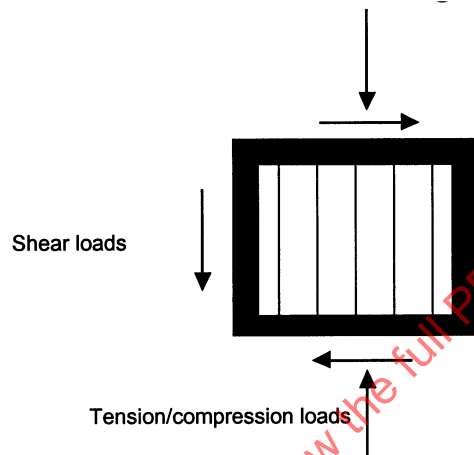

FIGURE 6 - Loads on a Core Plug
- 5.3.2.1 General: A honeycomb core plug has to be spliced all around to the existing core and bonded either to the bottom skin or to the existing core (core partial replacement). Shear, tension, and compression loads will be transmitted through these bond lines (Figure 6).